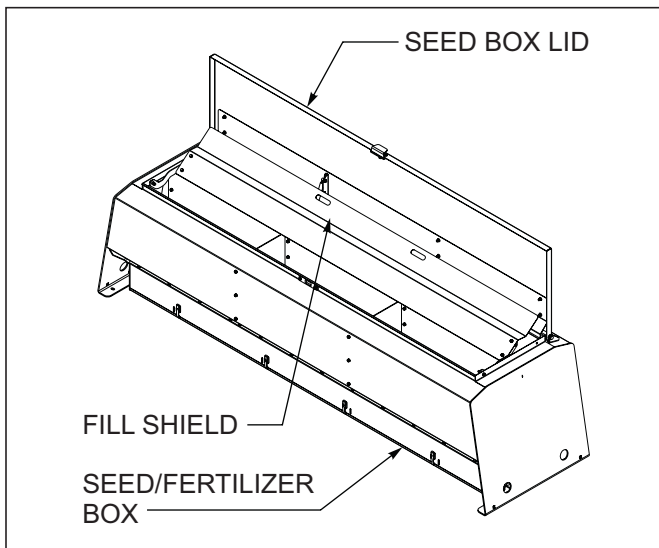

Figure 4-15: Fill Shield in Raised Position
4. When using both seed and dry fertilizer, open fill shield up shielding the seed box and fill with dry fertilizer **See Figure 4-15.**